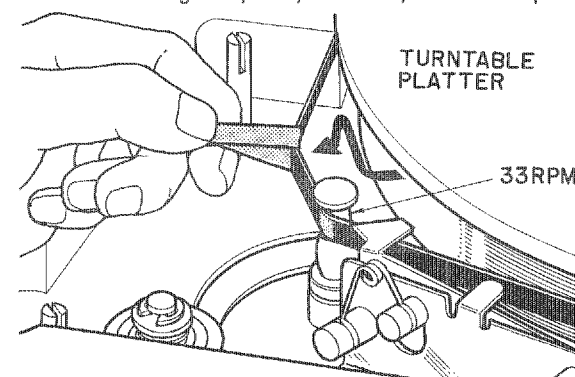

Fig. 6
5. Slide the platter carefully over the center shaft, taking care not to damage the pin on the under side. At the same time, pull out on the drive belt (by grasping the ribbon attached to it) and slip the belt over the motor pulley, threading the belt through the speed change guide as you do so, Fig. 6. When the belt is in position, remove the ribbon, put the rubber sheet on the platter and snap the triangular pulley assembly cover into place.